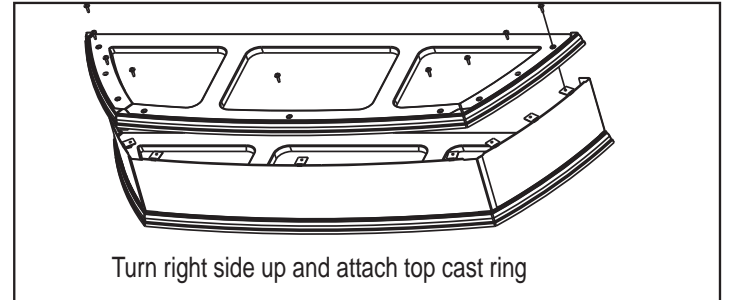

Figure 20.4
5. Now turn the cast ring right side up and attach the top cast ring. **Figure 20.4.**